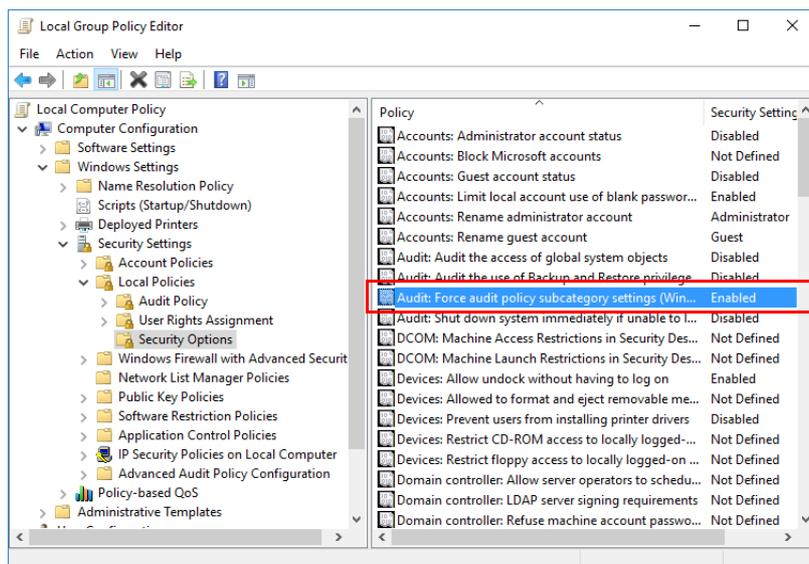

Figure 2-63. Security Options setting
10. Set this property for Security Options, see Figure 2-63.